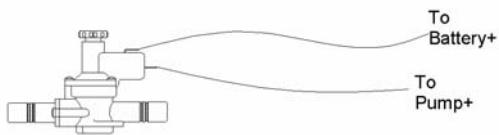

Fig 3
- 4) Connect microswitch terminals as per Fig 3